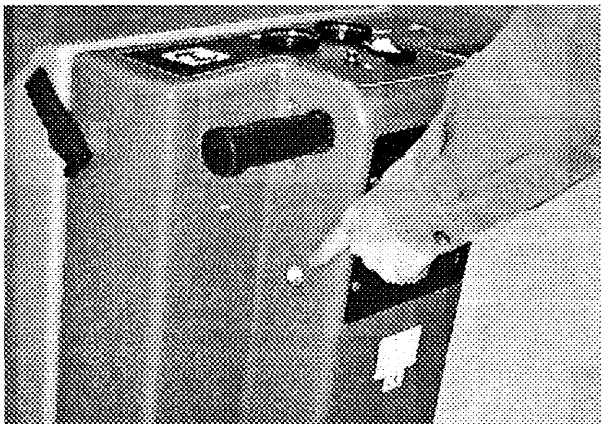

Fig. 8.
- If machine circuit breaker trips, check pad pressure and/or replace soiled pad. Reset circuit breaker button after allowing motor to cool. (Fig. 8) See **PAD MOTOR CIRCUIT BREAKER**